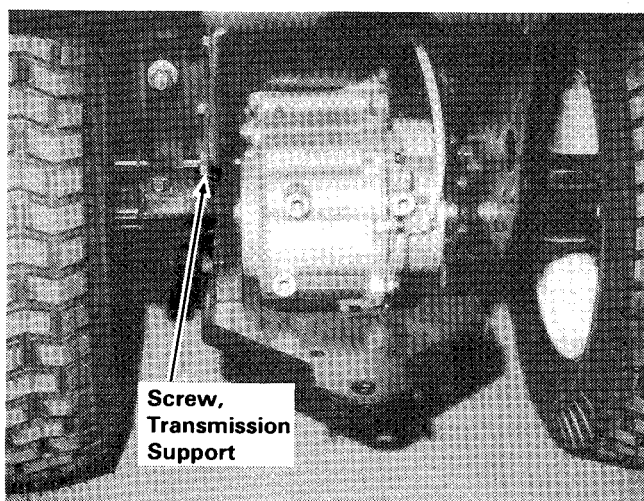

Figure 5.
- a. Remove the rear-most screw from the transmission support (figure 5). This screw is used to install the plate.